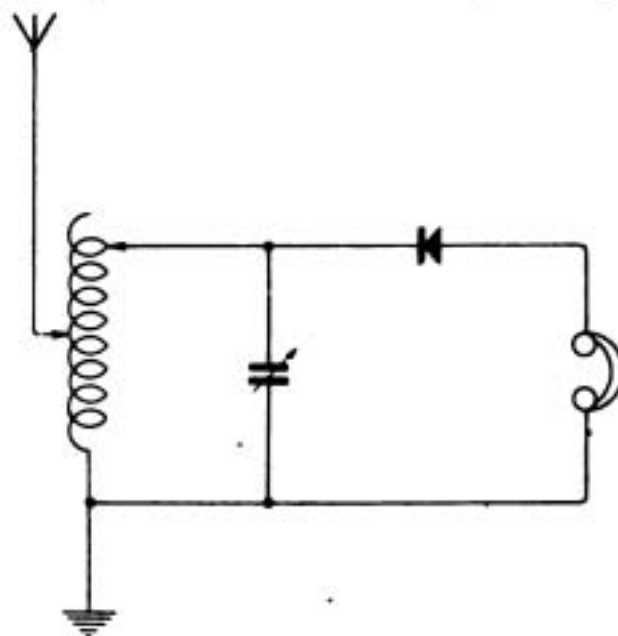

Fig. 4.
R.W.B. (Bromley) describes his crystal set and asks (1) If the connections are right. (2) What are the best instruments for an amateur to use. (3) What instruments are required to receive concerts, etc. (4) Whether batteries are necessary with silicon or galena.
(1) No, connect as in the diagram, Fig. 4.